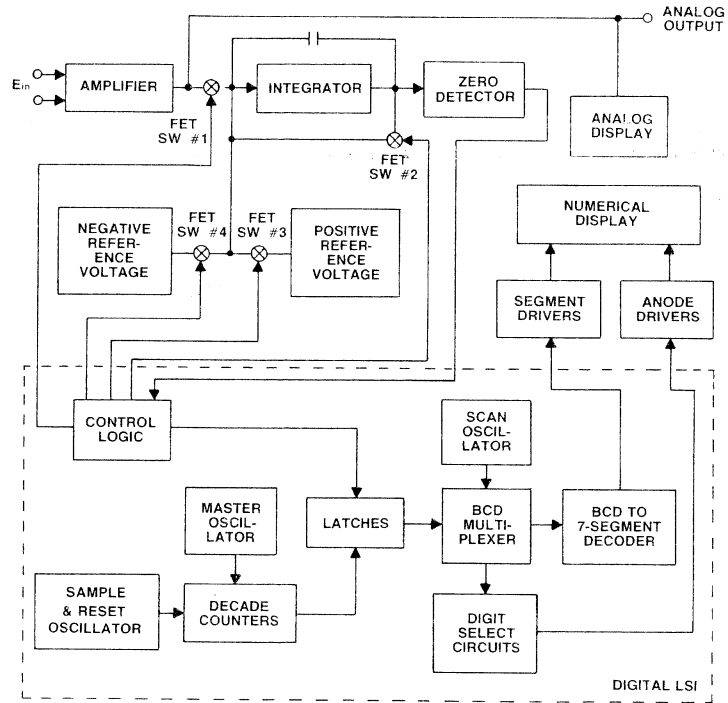

Figure 5-4. Block Diagram of A/D Converter
5.3.1 The basic block diagram of the A/D Converter is shown in Figure 5-4. The circuit utilizes the “Up-Down” integration technique for the analog-to-digital conversion. This technique is based on the conversion of a DC voltage into a proportional time period. The converter initially accumulated a charge proportional to the input signal on an integrator capacitor for a fixed period of time. In the second integration period, the capacitor discharges back to the “zero” voltage starting point, when the input signal is removed and a reference voltage opposite in polarity is placed at the input of the converter. The ratio of the time required to remove the integrator charge to the initial fixed time period is proportional to the amplitude of the input DC voltage.